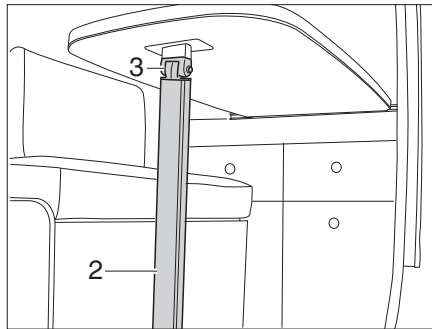

Fig. 13 Suspension table with fold-out leg
- Unlock the table leg (Fig. 13,2) at the hinge and fold it in.
- Fold out the table leg (Fig. 13,2) and place it on the floor of the Campster.